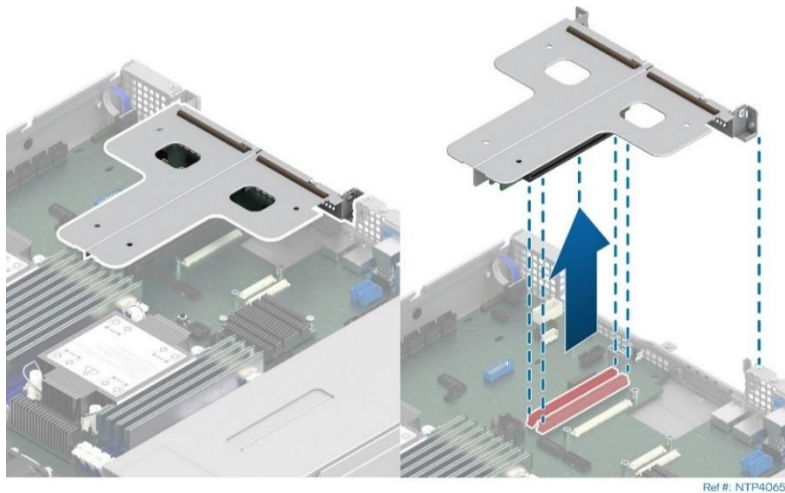

Figure 26. Riser Card Bracket Removal
4. Remove the riser card assembly from the system (see Figure 26)